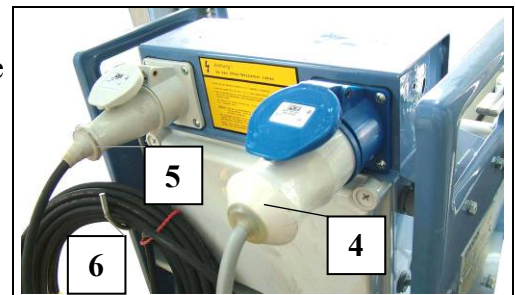

Fig. 32 Plug panel on the winch
- Carefully roll up the excess cable and hang on the hook (Fig. 32 Pos 6). - Otherwise it presents a hazard from catching on something or from the cable being damaged.
- Hang rope (1) on the rope winch out of the spring loop (2).
- Press DOWN button on the control cylinder. - Unwind enough rope; keep rope tight so that the slack rope switch (3) remains in its operating position.